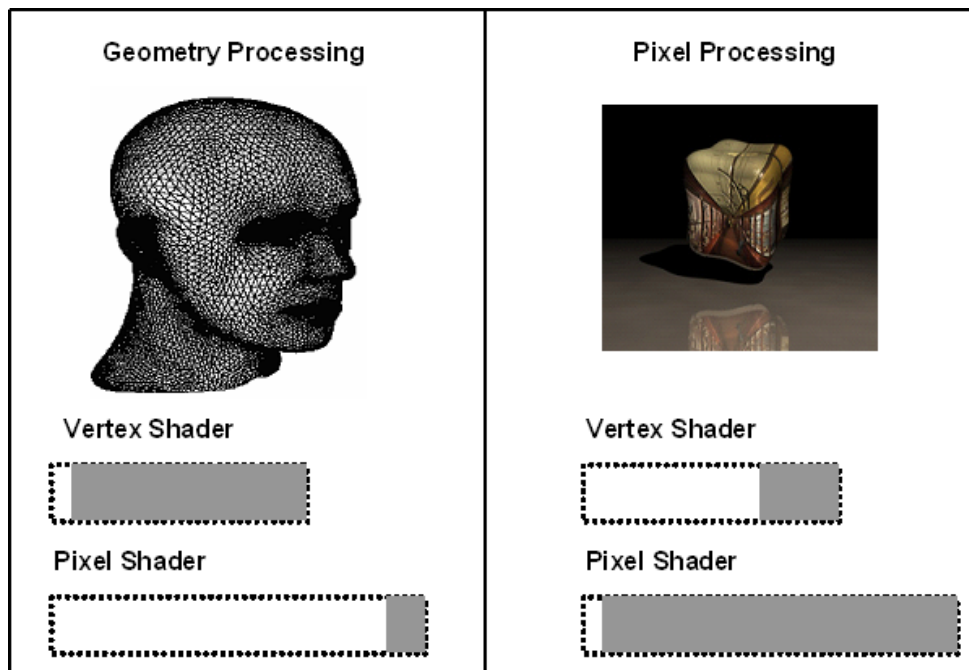
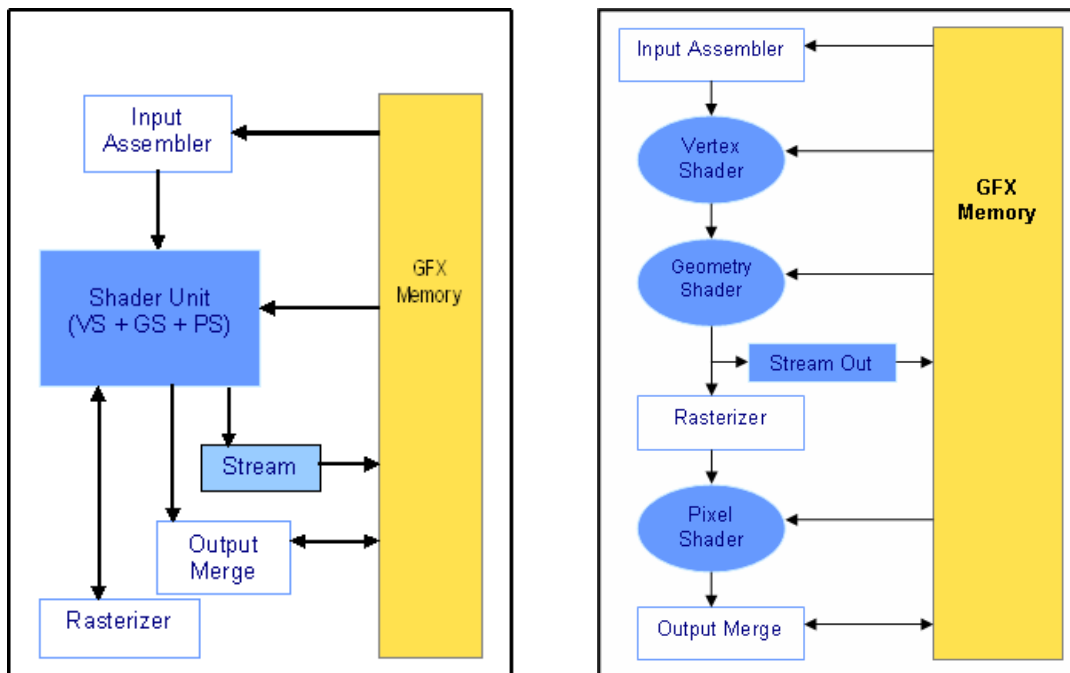
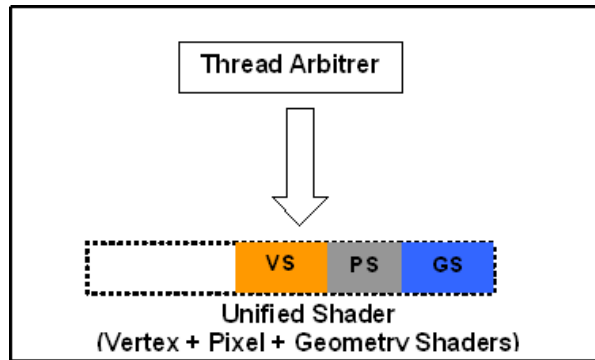

Figure 5. Vertex and Pixel Shader Resource Utilization for Different Applications
Figure 6. Unified Shader Model (Left) Compared to Basic DX10 Pipeline (Right)
Figure 7. Unified Shader Utilized for Different Shader Types
This new design still has a limitation in the utilization rate for each shader type based on the application (see Figure 5 below). If complex geometry calculations and processing are needed, then the VS may be fully utilized while the PS might remain idle. If an application is pixel processing heavy, then the PS may be running at full speed while the VS will only be partially loaded.
- **Flexible Load Balancing:** The new unified ISA allows flexibility. Developers can now look at these shader units as one cohesive block (single common core virtual machine) instead of separate blocks, as shown in Figure 6. The unified shader is made up of shader blocks that can handle all vertex, pixel, and geometry instructions, so the GPU is fully utilized without concern for shader loading imbalances (geometry processing vs. pixel processing, as shown in Figure 5). There is also additional logic to load balance the shader units to keep all functional units fully utilized. If more pixel processing is needed, then more of the unified shader blocks can be allocated to pixel processing to increase throughput. The same shader-type allocation can be done with the VS and GS, as seen in Figure 7.